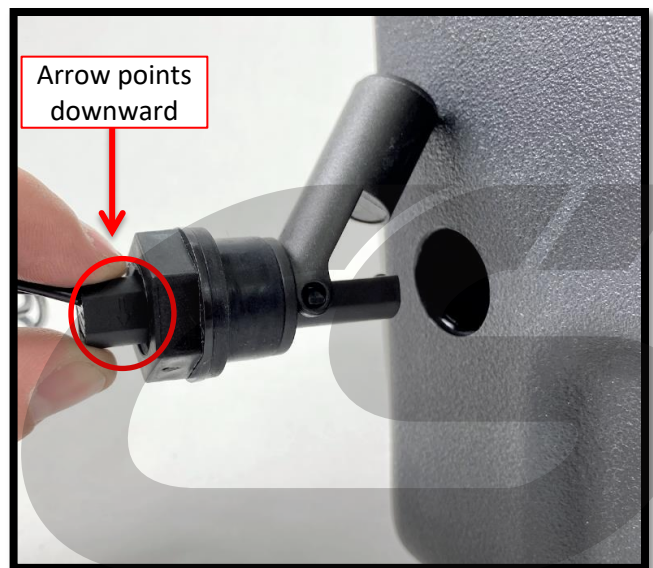

Figure 6d
- d) Install the supplied low level sensor into the hole in the front of the tank. Insert it through the hole in the orientation shown in **Figure 6d**. The arrow on the side of the sensor should point down.